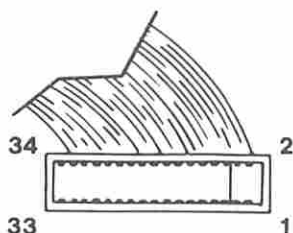

Figure 17. Signal Cable Voltage Check
- Refer to Figure 17 and check the voltage at pin 30 of the diskette drive A signal cable connector (diskette drive end).